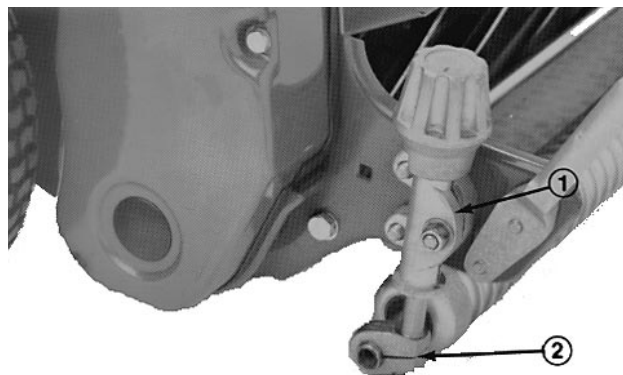

Fig. 6
2. Loosen the locknuts securing the height-of-cut brackets to the side plates (Fig. 6).